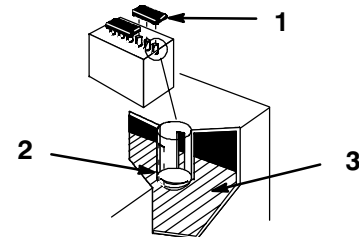

Figure 39
2. With the engine off, open the covers to see into the cells. The electrolyte must be up to the lower part of the tube (Fig. 39). Do not allow the electrolyte to get below the plates. (Fig. 39).
2. Lift off the filler caps (Fig. 39).
3. Slowly pour distilled water into each battery cell until the level is up to the lower part of the tube (Fig. 39).